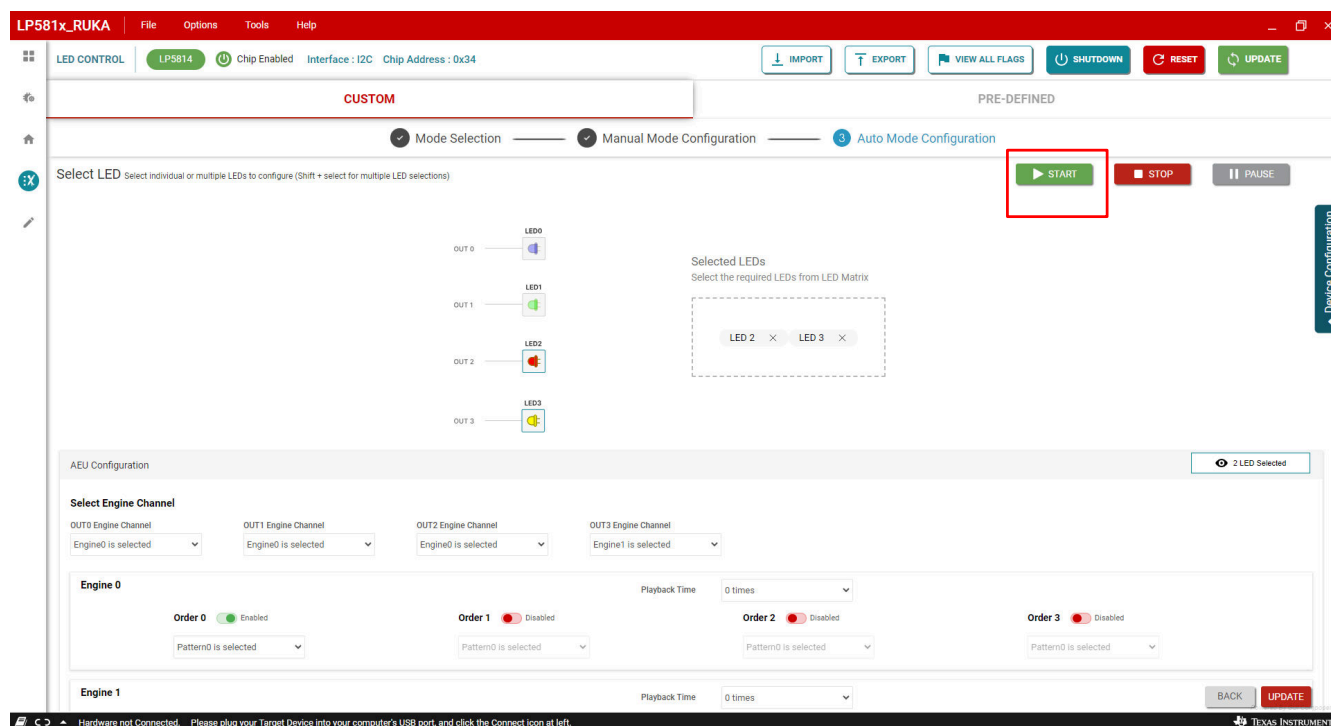

Figure 3-20. Start Command Send
- Finally, send start command to start the configured patterns running on the red LED (OUT2) and white LED (OUT3) through clicking the START button as shown in Figure 3-20.